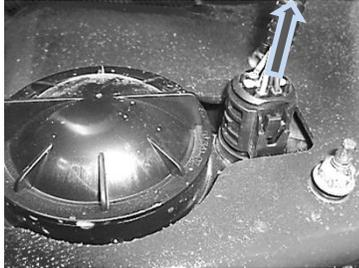

Figure 2 – Headlight wire
- i. Headlight: Press release tab inward and pull plug straight out (see FIGURE 2).